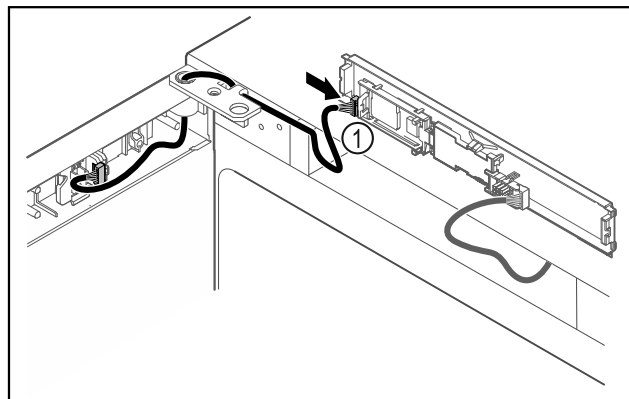

Fig. 33
- Connect the plug Fig. 33 (1) to the circuit board.